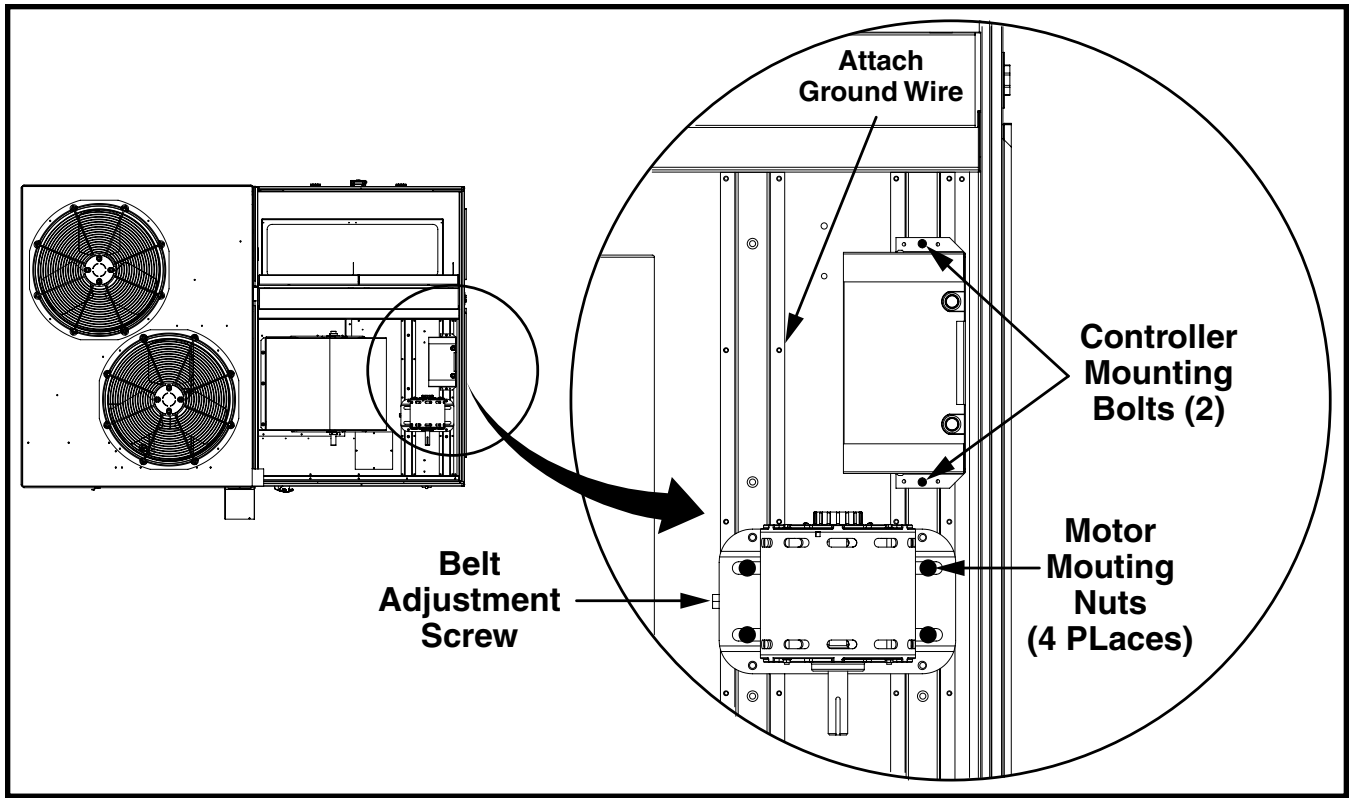

Figure 1. Motor Controller 10 Pin Plug
4. Install motor controller on rail behind motor location using two bolts provided in kit with cooling fins facing blower assembly. See Figure 1 \(page 4\).
- c.) Connect GREEN ground wire using the screw that secures motor mounting rail to the blower deck. See Figure 1 \(page 4\).